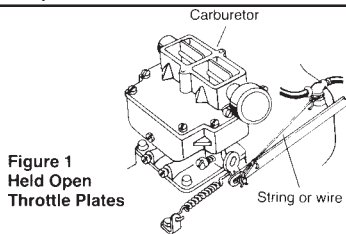

Figure 1
4. Remove the air filter and set the carburetor throttle plates to the wide open throttle position using a wooden block, being careful not to damage the linkage or carburetor components. See Figure 1.